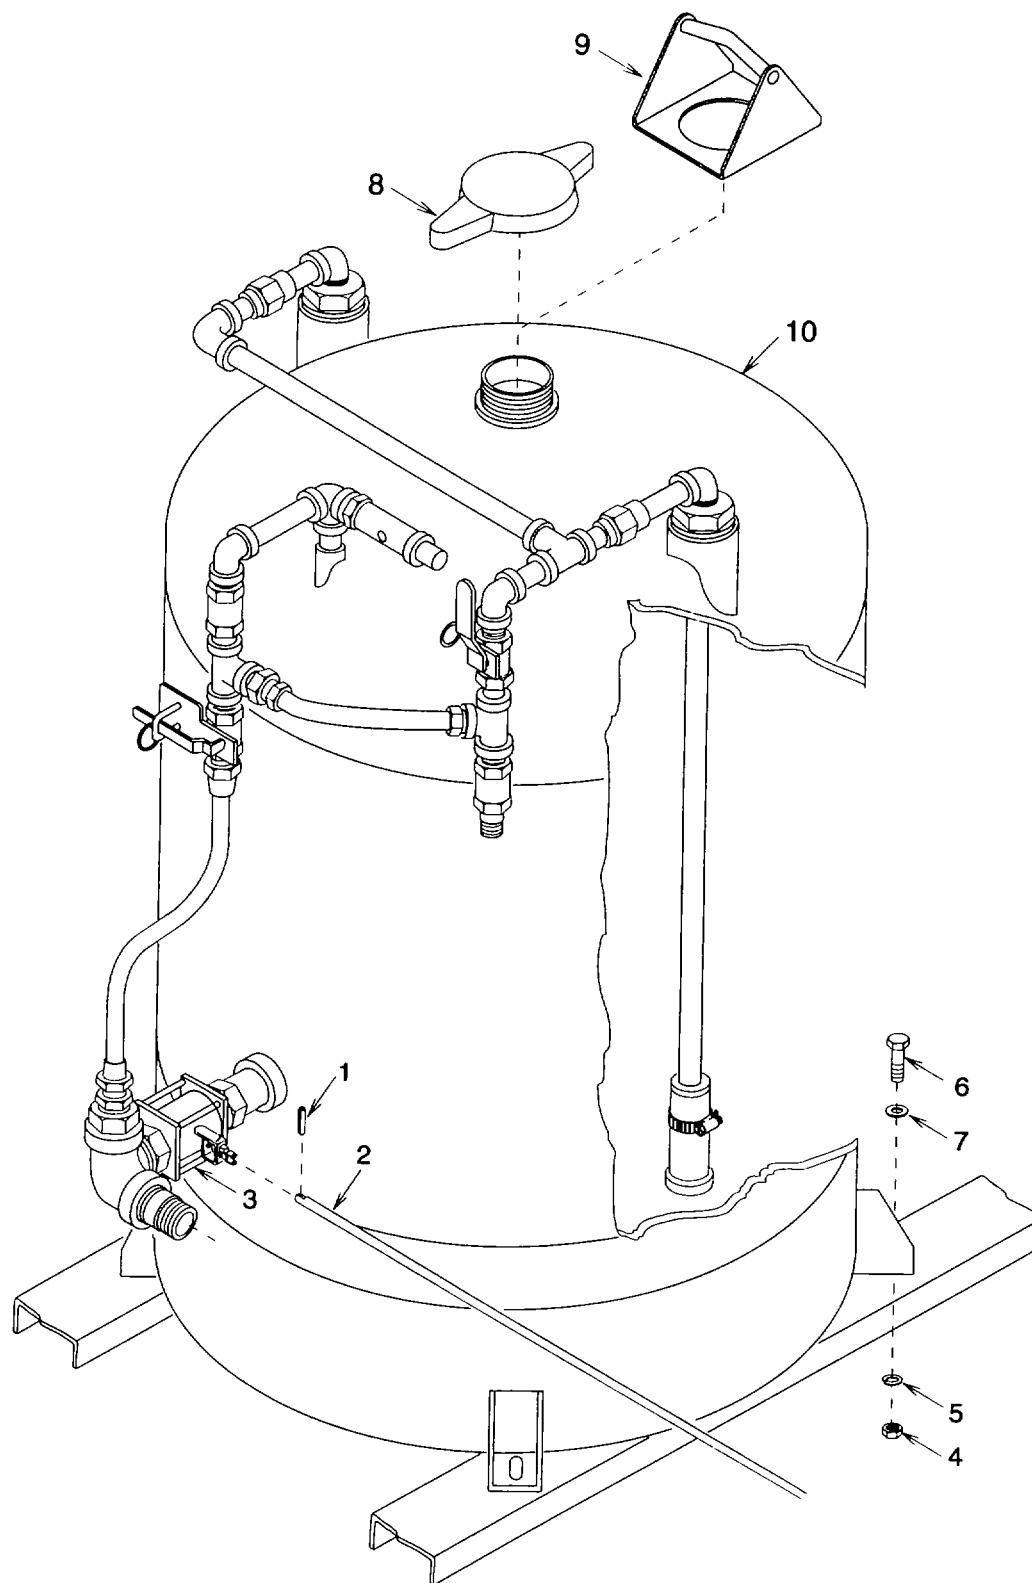

Figure 4-19. Dry Chemical Tank Removal
**a. Removal** (See figure 4-19.)
(1) Remove spring pin (1) and rod (2) from valve (3). Discard spring pin.
(2) Remove four nuts (4), lock washers (5), screws (6), and flat washers (7) Discard lock washers.
(3) Remove cap (8) and place tank lifting tool (9) onto tank (10) fill collar. Install cap.
(4) Attach lifting device to tank lifting tool (9). Secure tank (10) from swinging and carefully lift Lower tank onto level ground or suitable work area floor.
(5) Remove cap (8) and tank lifting tool (9) Install cap and hand tighten only.
#### e. Installation (See figure 4-19. )